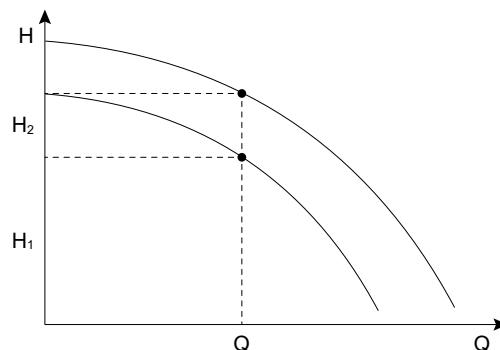

Fig. 7.3.3b Head of pumps in series
The Capacity (Q) will always be constant throughout the pump series (see Fig. 7.3.3b).